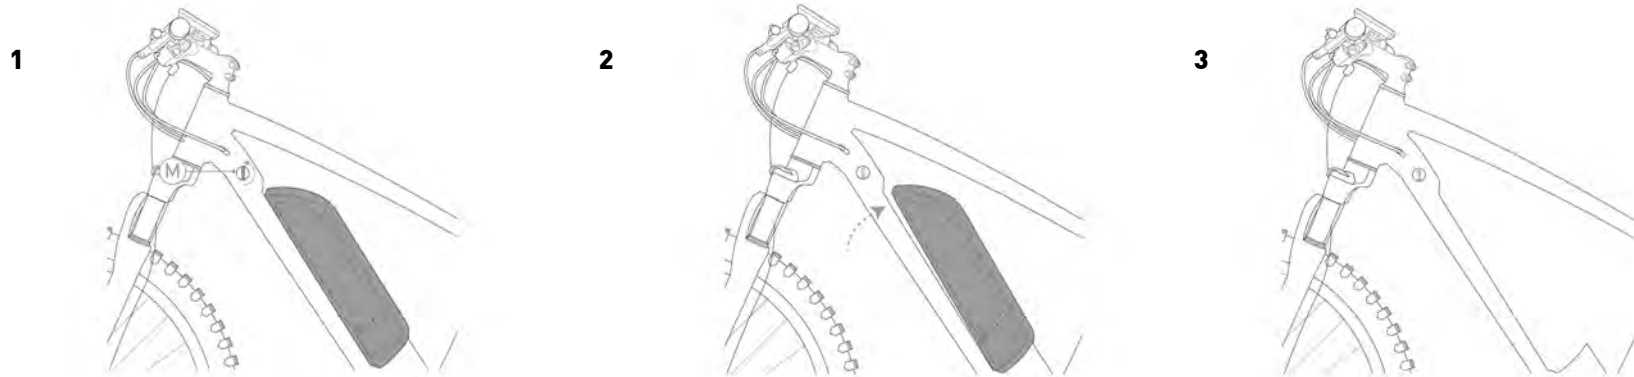

FIG. 7
- 1- Insert the battery lock/unlock key into the appropriate lock at the top left of the frame, in the vicinity of the handlebar and rotate the keys counterclockwise (Ref. M - Figure 7);
- 2- Holding the key rotated, unhook the battery and turn it to the right side (Ref.2 - Figure 7).